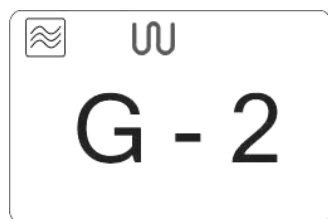
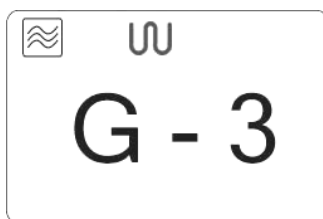

Fig. 3
Fig. 4
- Press the **"M.W.+Grill"** button on the key pad. By pressing on the **"M.W.+Grill"** button once you will see the microwave and grill symbols, and **"G-2"** on the digital display. (Fig. 3) Press it a second time and you will see the microwave and grill symbols, and **"G-3"** on the digital display. (Fig.4)